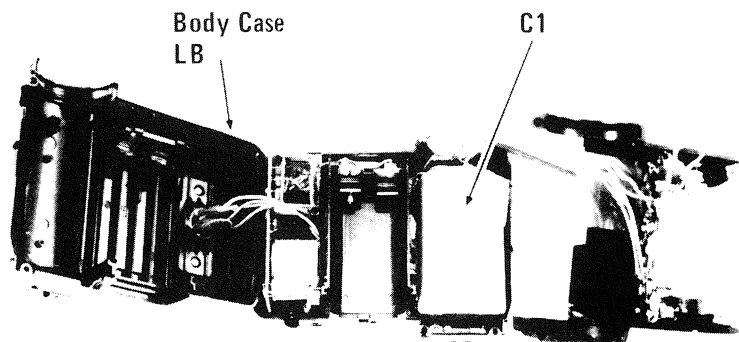

Figure 3-4. Body Case Disassembly
E. Lift back body case LB being careful not to touch main capacitor (C1) contacts or wiring on PC boards. Fig. 3-4.